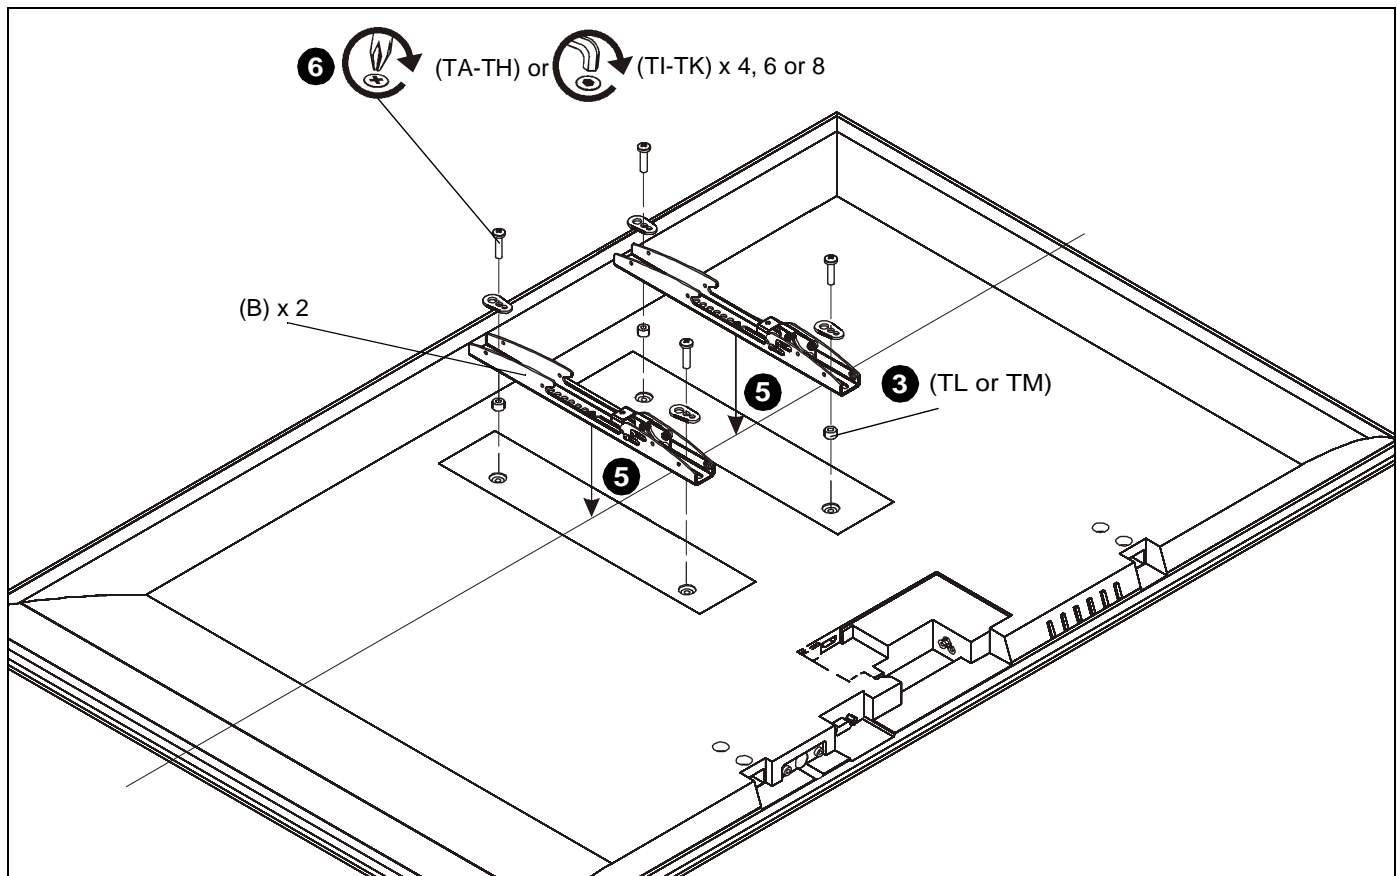

Figure 7
2. Select screw *diameter* by examining hardware (TA-TK) (4mm, 5mm, 6mm or 8mm) and comparing with mounting holes on display. (See Figure 7)
3. Select spacers: (See Figure 7)
- If mounting holes are not recessed and both uprights (B) can lay flat against display, then no spacers are required.
- If mounting holes are recessed, or if protrusions prevent uprights (B) from laying flat, then spacers (TL or TM) must be used.
4. Select screw *length*: (See Figure 7)
- Using your hand, insert **SHORTEST** length screw of selected diameter (TA, TD, TG or TI) through universal washer (TN), uprights (B), selected spacer (TL or TM), into display mounting hole. Do **NOT** thread screw into hole at this time.
5. Place uprights (B) on display, ensuring: (See Figure 7)
- Center of uprights (B) are as close to the center of the back of display as possible after being installed. Center of bracket is indicated by the diamond-shaped hole.
6. Use selected screws and spacers to install two interface uprights (B) to back of display. (See Figure 7)